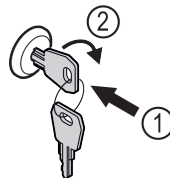

Fig. 172
- ▶ Insert key Fig. 172 (1).
- ▶ Turn key clockwise by 90° Fig. 172 (2).